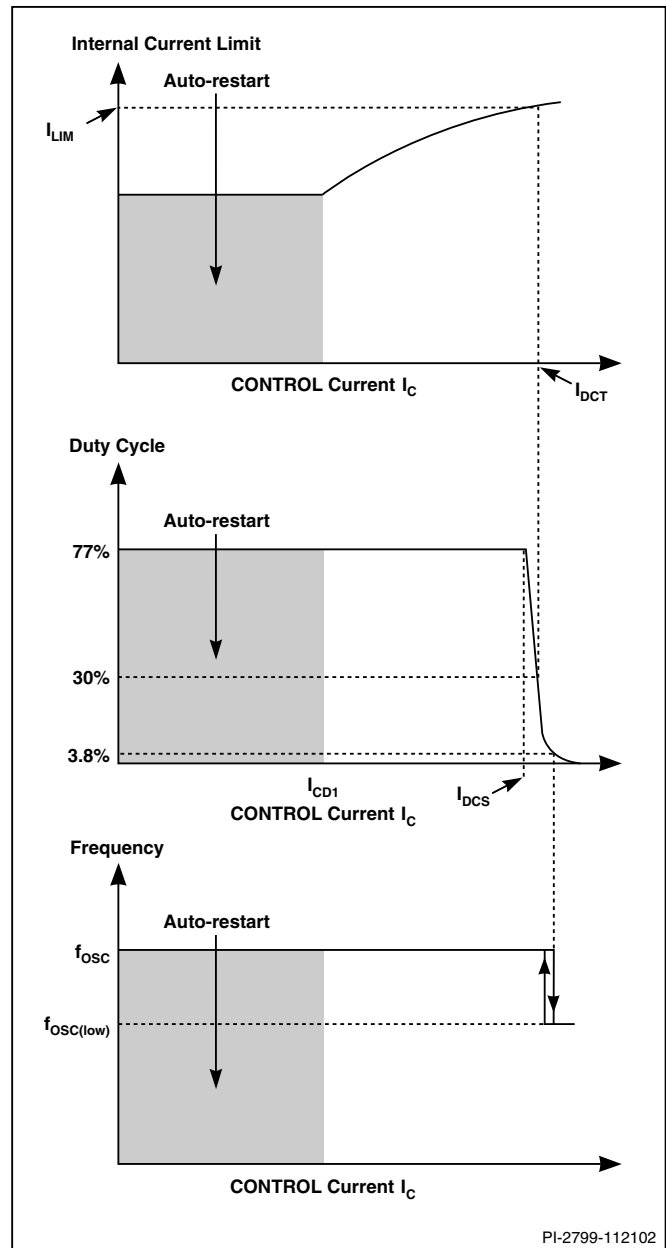
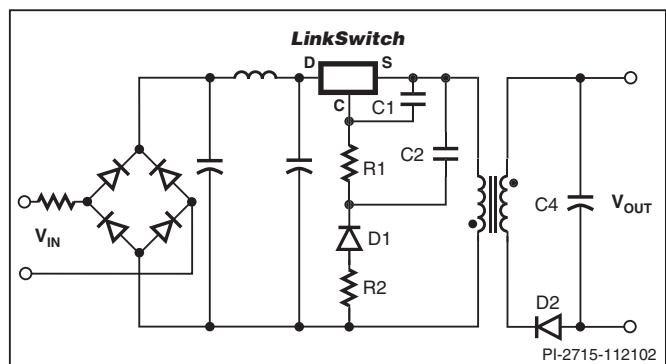
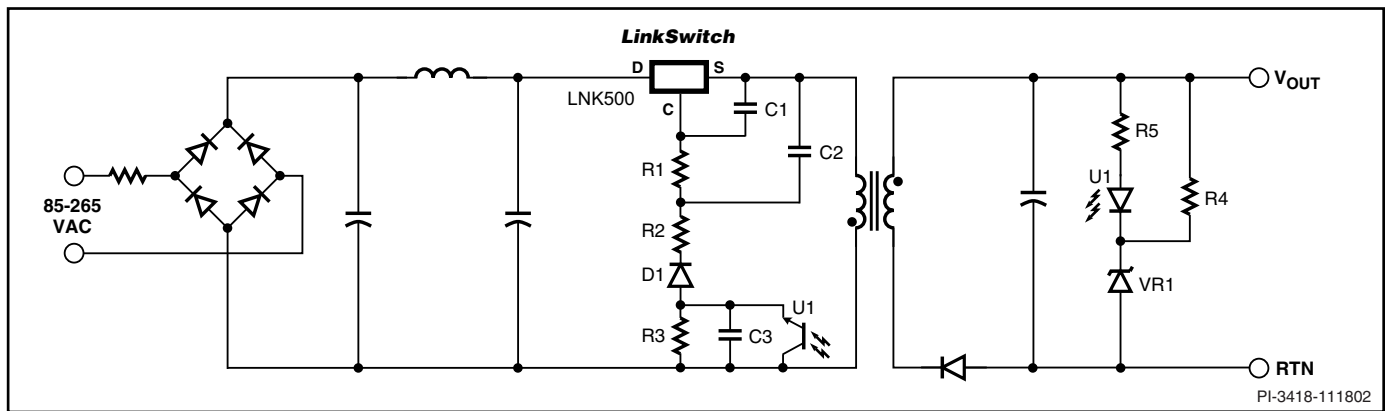

Figure 4. CONTROL Characteristics.
Figure 5. Power Supply Outline Schematic.
Figure 6. Power Supply Outline Schematic with Optocoupler Feedback.
The duty cycle, current limit and operating frequency relationships with CONTROL pin current are shown in Figure 4. Figure 5 shows a typical power supply outline schematic which is used below to describe the *LinkSwitch* operation.
During power up, as  $V_{IN}$  is first applied (Figure 5), the CONTROL pin capacitor C1 is charged through a switched high voltage current source connected internally between the DRAIN and CONTROL pins (see Figure 2). When the CONTROL pin voltage reaches approximately 5.6 V relative to the SOURCE pin, the high voltage current source is turned off, the internal control circuitry is activated and the high voltage internal MOSFET starts to switch. At this point, the charge stored on C1 is used to supply the internal consumption of the chip.
As the output voltage, and therefore the reflected voltage across the primary transformer winding ramp up, the feedback CONTROL current  $I_C$  increases. As shown in Figure 4, the internal current limit increases with  $I_C$  and reaches  $I_{LIM}$  when  $I_C$  is equal to  $I_{DCT}$ . The internal current limit vs.  $I_C$  characteristic is designed to provide an approximately constant power supply output current as the power supply output voltage rises.
When  $I_C$  exceeds  $I_{DCS}$ , typically 2 mA (Figure 4), the maximum duty cycle is reduced. At a value of  $I_C$  that depends on power supply input voltage, the duty cycle control limits *LinkSwitch* peak current below the internal current limit value. At this point the power supply transitions from CC to CV operation. With minimum input voltage in a typical universal input design, this transition occurs at approximately 30% duty cycle. R1 (Figure 5) is therefore initially selected to conduct a value of  $I_C$  approximately equal to  $I_{DCT}$  when  $V_{OUT}$  is at the desired value at the minimum power supply input voltage. The final choice of R1 is made when the rest of the circuit design is complete. When the duty cycle drops below approximately 4%, the frequency is reduced, which reduces energy consumption under light load conditions.
Figure 6 shows a typical power supply outline schematic using *LinkSwitch* with optocoupler feedback to improve output voltage regulation. On the primary side, the schematic differs from
Figure 5 by the addition of R3, C3 and optocoupler U1. R3 forms a potential divider with R1 to limit the U1 collector emitter voltage.
The feedback configuration in Figure 6 is simply a resistive divider made up of R1 and R3 with D1, R2, C1 and C2 rectifying, filtering and smoothing the primary winding voltage signal. The optocoupler therefore effectively adjusts the resistor divider ratio to control the DC voltage across R1 and therefore, the feedback current received by the *LinkSwitch* CONTROL pin.
When the power supply operates in the constant current (CC) region, for example when charging a battery, the output voltage is below the voltage feedback threshold defined by U1 and VR1 and the optocoupler is fully off. In this region, the circuit behaves exactly as previously described with reference to Figure 5 where the reflected voltage increases with increasing output voltage and the *LinkSwitch* internal current limit is adjusted to provide an approximate CC output characteristic. Note that for similar output characteristics in the CC region, the value of R1 in Figure 5 will be equal to the value of R1+R3 in Figure 6.
When the output reaches the voltage feedback threshold set by U1 and VR1, the optocoupler turns on. Any further increase in the power supply output voltage results in the U1 transistor current increasing, which increases the percentage of the reflected voltage appearing across R1. The resulting increase in the *LinkSwitch* CONTROL current reduces the duty cycle according to Figure 4 and therefore, maintains the output voltage regulation.
transistor voltage and dissipation ratings and should be fully tested before finalizing a design. The values of C2 and C3 are less important other than to make sure they are large enough to have very little influence on the impedance of the voltage division circuit set up by R1, R3 and U1 at the switching frequency. Normally, the values of C2 and C3 in Figure 6 are chosen equal to the value of C2 in Figure 5, though the voltage rating may be reduced depending on the relative values of R1 and R2 discussed above. See Applications section for typical values of components.
The output voltage load variation can be improved across the whole load range by adding an optocoupler and secondary reference (Figure 6). The secondary reference is designed to only provide feedback above the normal peak power point voltage to maintain the correct constant current characteristic.
The schematic shown in Figure 5 outlines the key components needed for a *LinkSwitch* supply.
Since the SOURCE pins in a *LinkSwitch* supply are switching nodes, the copper area connected to SOURCE together with C1, C2 and R1 (Figure 5) should be minimized, within the thermal constraints of the design, to reduce EMI coupling.